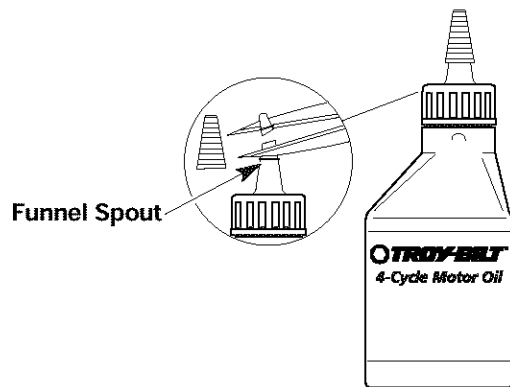

Fig. 3
Your unit is supplied with one 3.4 fluid oz. (100 ml.) bottle of SAE 30 SF, SG, SH oil (Fig. 3).
1. Unscrew the top of the bottle of oil and remove the paper seal covering the opening. Replace top. Cut the tip off the funnel spout (Fig. 3).